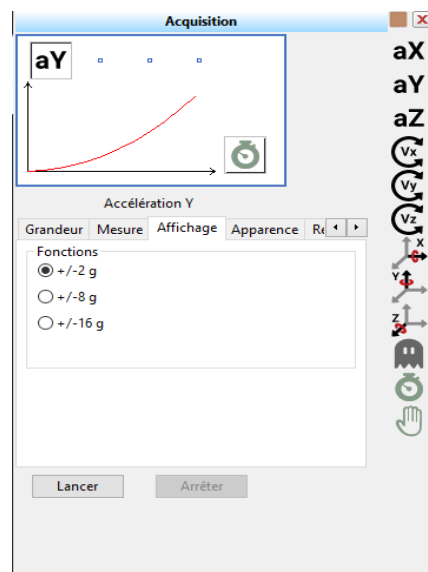

Figure 10 : Choose a suitable display
- Click on **aY**, then "Affichage", multiple calibration exist: $\pm 2g$, $\pm 8g$, $\pm 16g$, select $\pm 2g$ for a better visualization (figure 10).